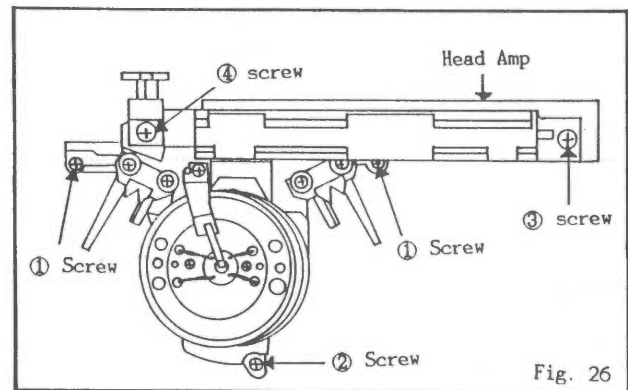

Fig. 26
1. Remove 2 screws (Tap Tite(S) 3x6 Bind ③, Tap Tite(S) 3x10 Bind ④) fixed the Head Amp, then pull out the Head Amp from the cylinder.
5. Remove cylinder unit by taking out screws ① and ②. (Fig. 26)